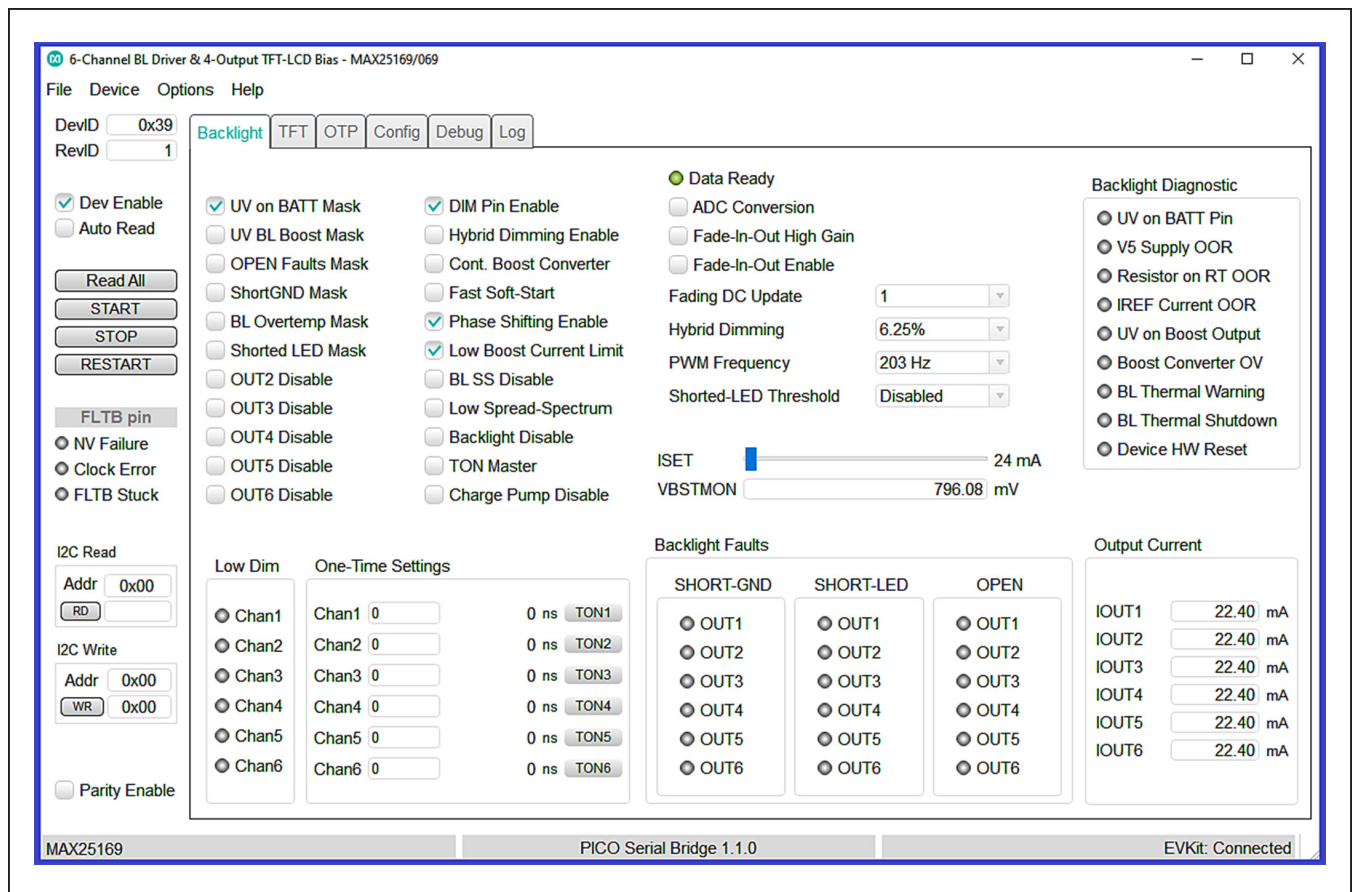

Figure 1. MAX25169 Evaluation Kit Software (GUI)
- 34) Verify that the status bar in the bottom-right corner of the GUI displays **EV Kit: Connected**, See Figure 1.